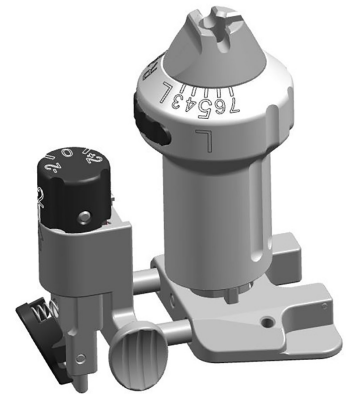

Figure 1
1. Attach the Adjustable Valgus Bridge to the Adjustable Valgus Guide. Dial on the bridge should point towards the button on the Valgus Guide (Figure 1).